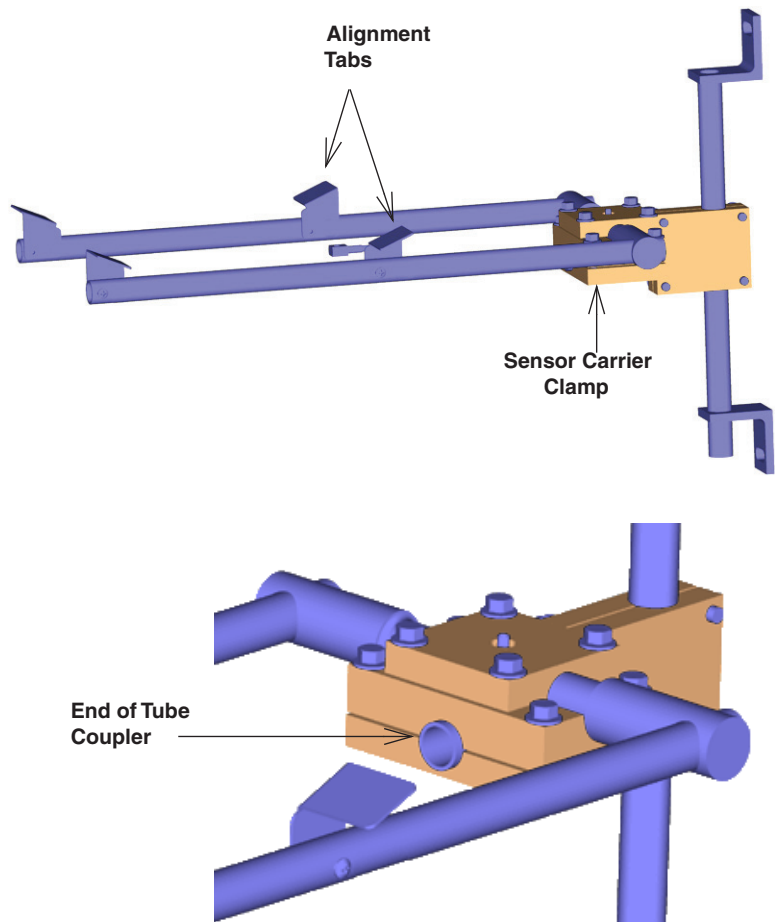

Figure 2-19 Wall Mount: Sensor carrier installed on tube coupler
4. Push the sensor carrier clamp onto the tube coupler until the coupler appears on the other side of the clamp. Align the carrier with both arms parallel to the flow surface and cross-tighten the bolts so the carrier is held firmly in position. Ensure the alignment tabs are facing up (see Figure 2-19).